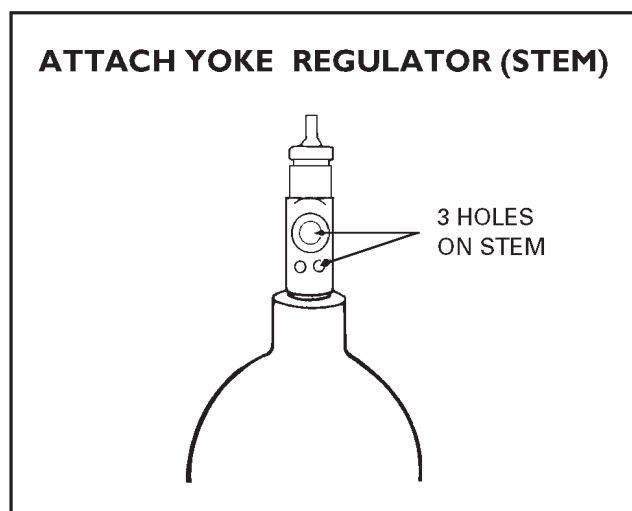

Figure 3-4. York regulator (stem)
- a. Locate the three holes on the oxygen cylinder stem and ensure that an "O" ring is present. (See Figure 3-4.)